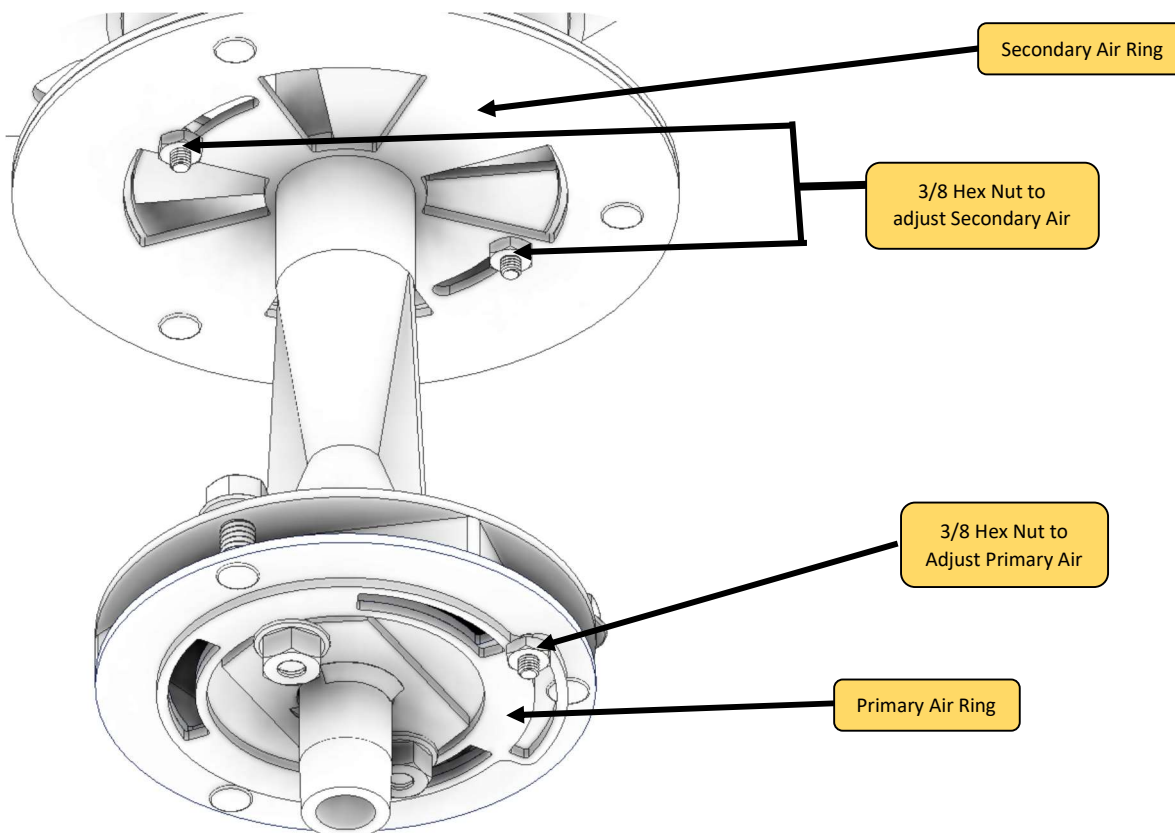

Figure 4: Air Shutter Adjustment
- To adjust the primary air, loosen the single hex nut holding the primary air ring with 3/8 wrench as shown in figure 4. Rotate the primary air ring in clockwise direction to increase the primary air flow to the burner. Retighten the hex nuts after adjustment.
- To adjust the secondary air, loosen the two hex nut holding the secondary air ring with 3/8 wrench as shown in figure 4. Rotate the secondary air ring in clockwise direction to increase the secondary air flow to the burner. Retighten the hex nuts after adjustment.